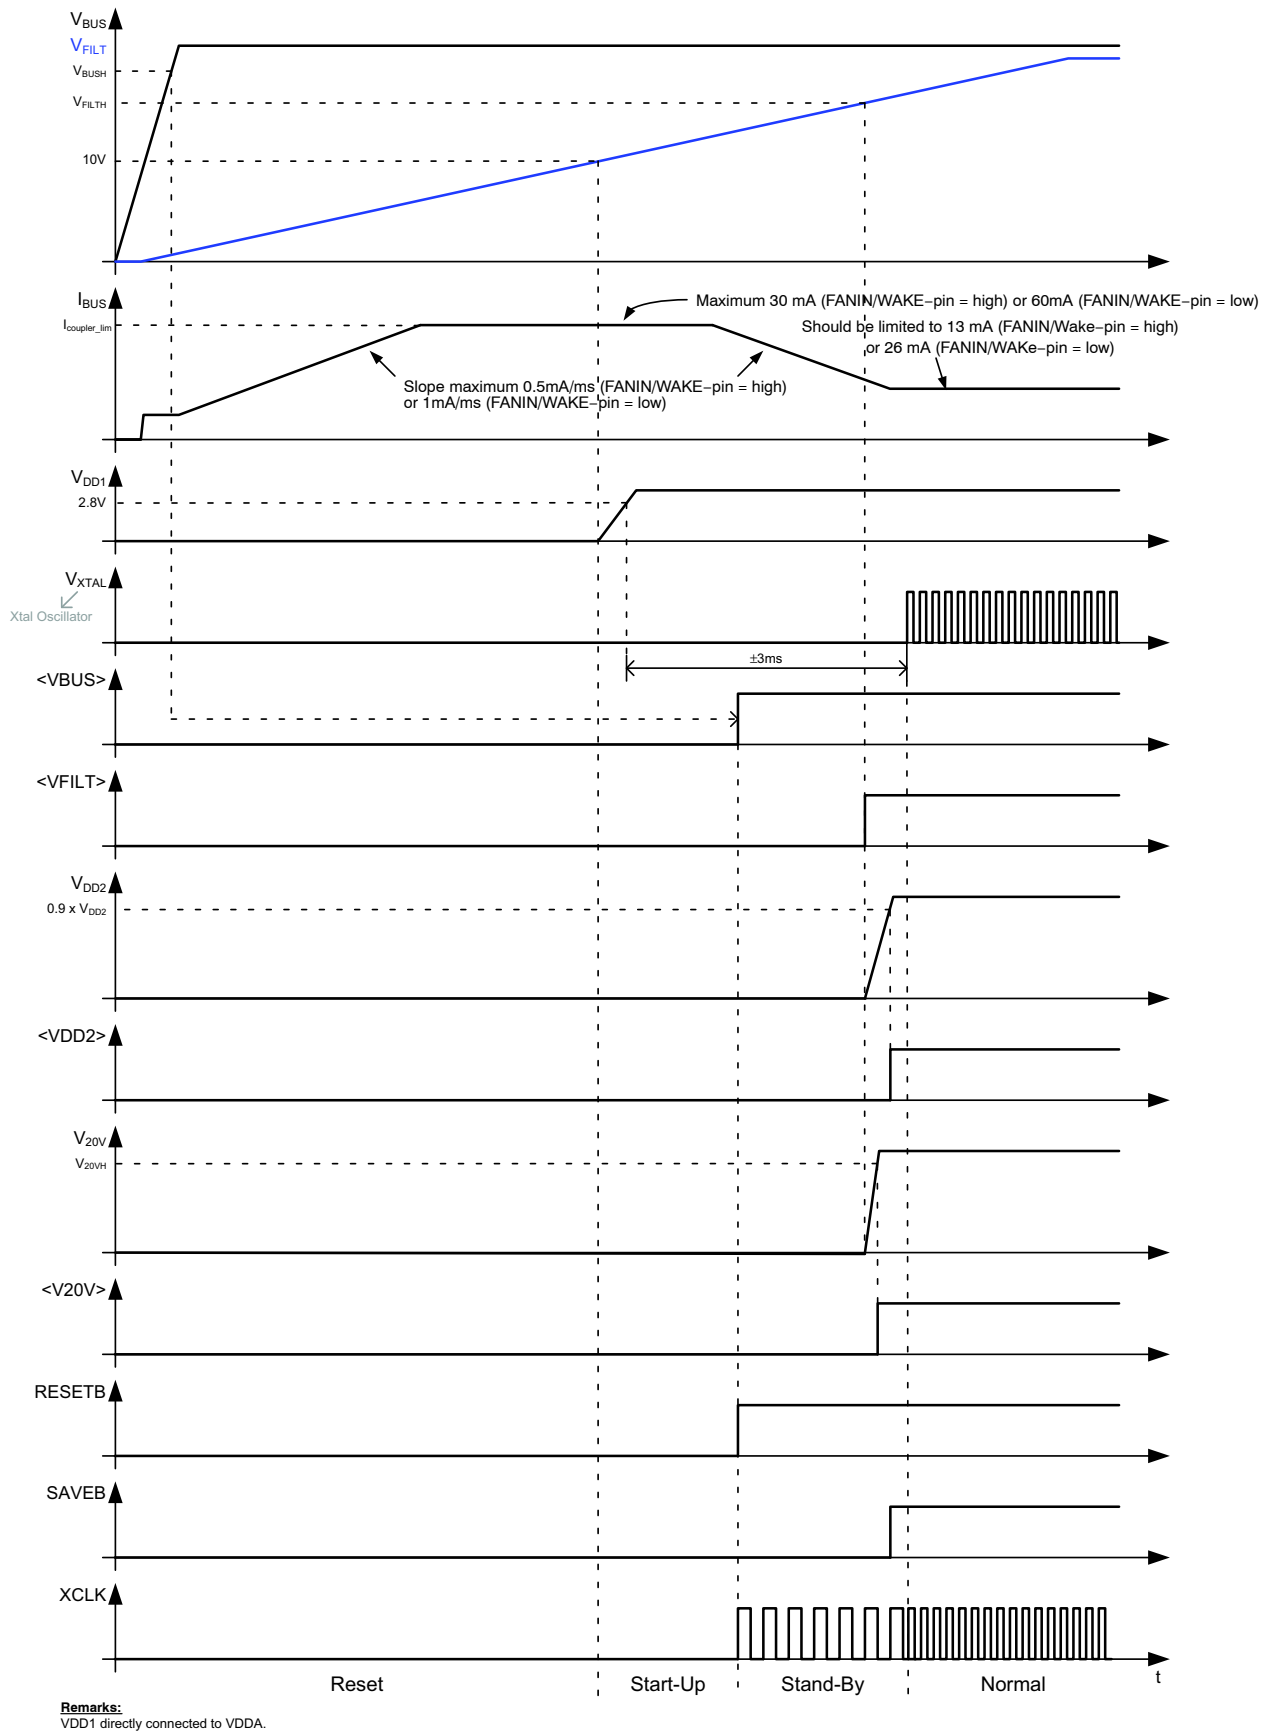

Figure 21. Start-Up Behavior
After power-up, a 4 MHz (Note 3) clock signal will be present on the XCLK–pin during Stand-By. When Normal State is entered, a 8 or 16 MHz clock signal will be present on the XCLK–pin. See also Figure 21.
Figure 21 gives a detailed view on the start-up behavior of NCN5120. After applying the bus voltage, the filter capacitor starts to charge. During this Reset State, the current drawn from the bus is limited to $I_{coupler}$ (for details see the KNX Standards). Once the voltage on the filter capacitor reaches 10 V (typ.), the fixed DC-DC converter (powering VDDA) will be enabled and the device enters the Start-Up State. When V_{DD1} gets above 2.8 V (typ.), the OTP memory is read out to trim some analog parameters (OTP memory is not accessible by the user). When done, the Stand-By State is entered and the RESETB-pin is made high. If at this moment V_{BUS} is above V_{BUSH} , the VBUS-bit will be set (<VBUS>, see System Status Service, p33). After approx. 2 ms the Xtal oscillator will start. When V_{FILT} is above V_{FILTH} DC2 and V20V will be started. When the Xtal oscillator has started, no Thermal Warning (TW) or Thermal Shutdown (TSD) was detected and the VBUS-, VFILT-, VDD2- and V20V-bits are set, the Normal State will be entered and SAVEB-pin will go high.